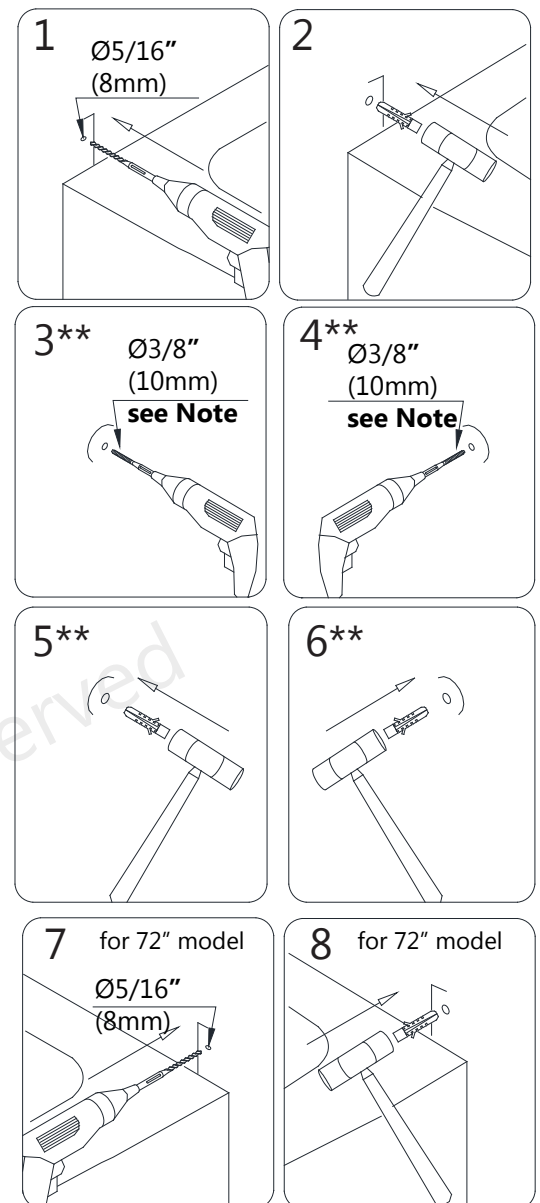

Fig 11
****If installing into a stud (recommended), drill a Ø1/4" hole and do not use the wall anchors (see note above).** (Fig 11)